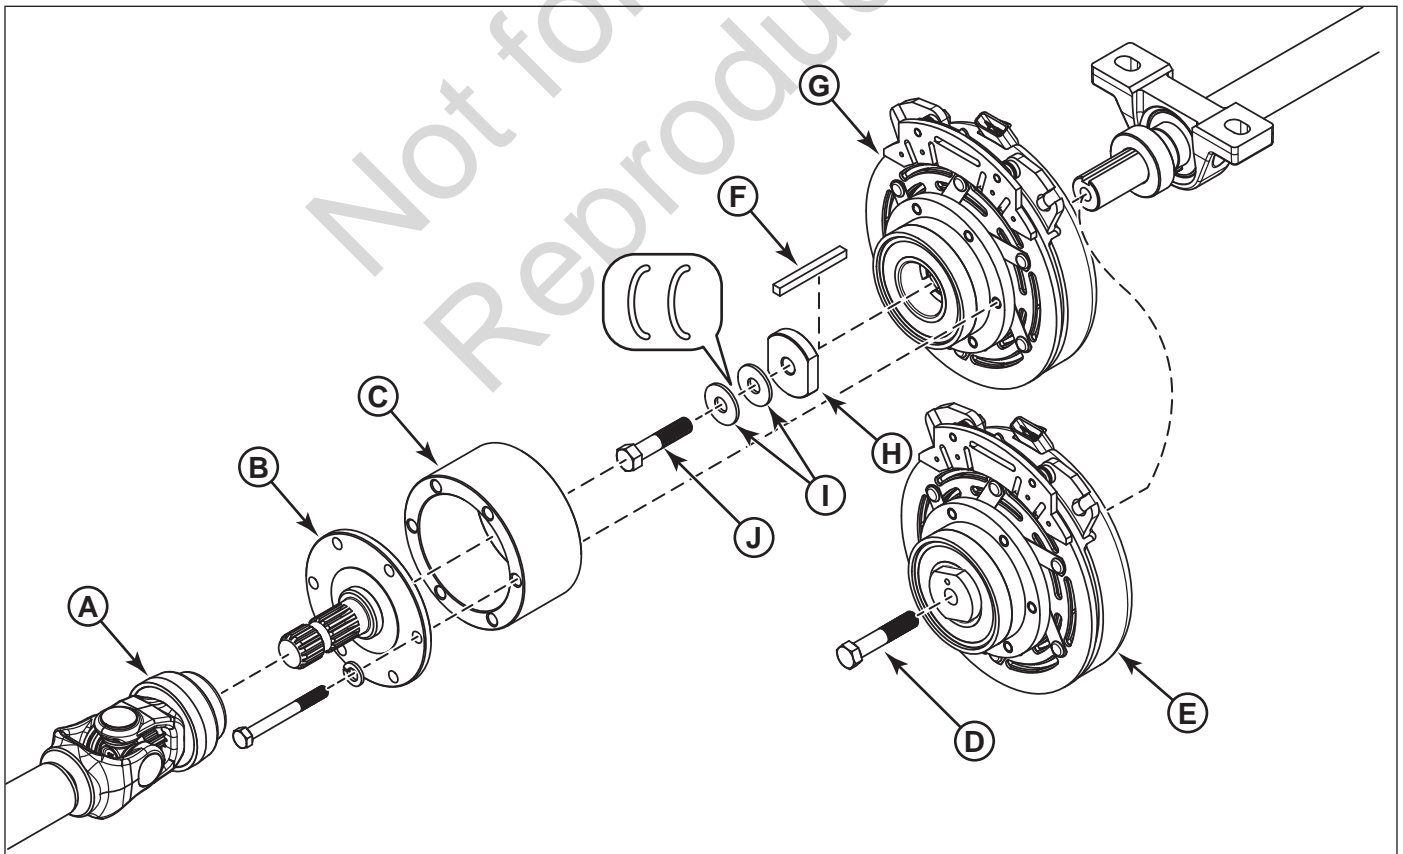

Figure 1. Replacing the Clutch
2. Gain access to the clutch by removing the drive shaft (A, Figure 1), stub shaft (B), and clutch spacer (C).
3. Remove the crankshaft bolt (D), clutch (E), and key (F).
4. Reinstall the key in the drive shaft and install the new clutch (G), the spacer (H), the two belleville washers (I) (with their domes facing away from the clutch), and secure using the crankshaft bolt (J). Torque the crankshaft bolt to 65 ft.lbs. (88 Nm).
5. Reinstall the clutch spacer (C), stub shaft (B), and drive shaft (A).